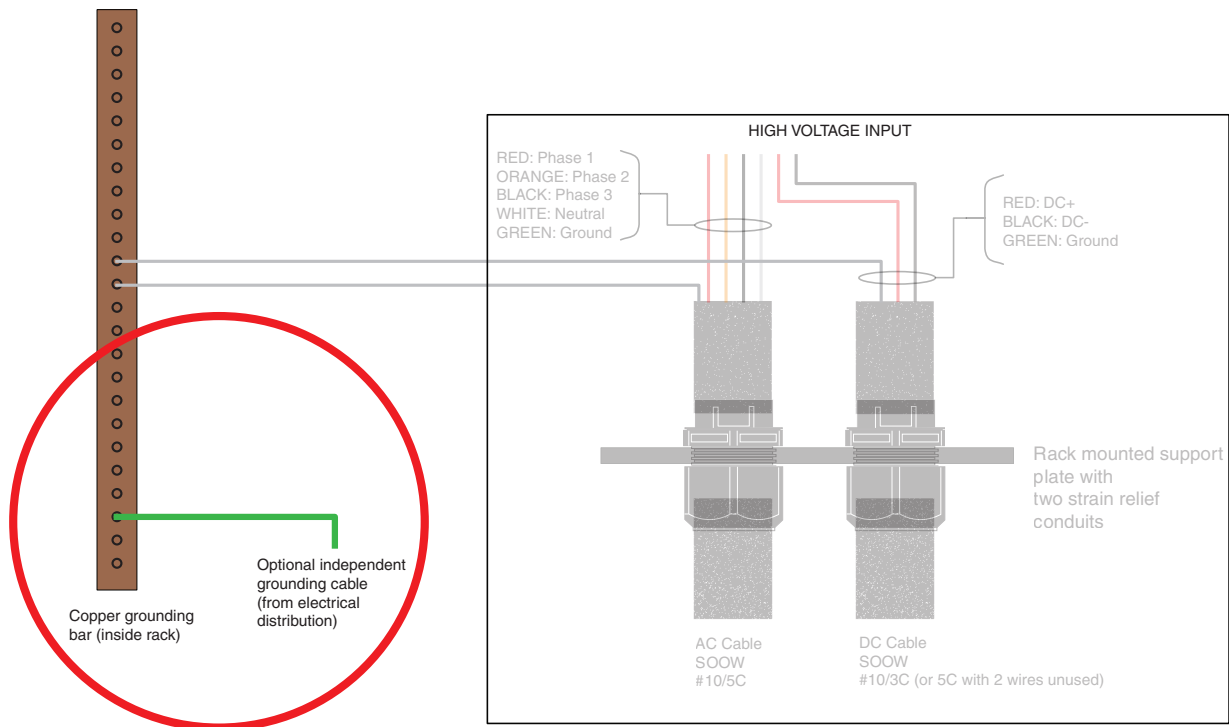

Figure 6: Connecting the optional, independent ground wire to the rack
3. Connect grounding wire for the entire rack (optional: if high voltage cables are not already grounded) See Figure 6.